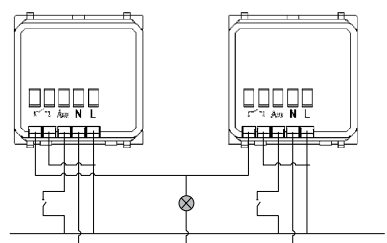

Figure 5: Parallel wiring diagram
4. To change the fuse, lift the switch, pulling softly along its edge (Fig. 5) and remove the fuse holder (Fig. 6).
To ensure that the detection of movement by any of the devices installed activates the load controlled by all of them, their outputs should be wired in parallel to the load. See wiring diagram in Figure 5.